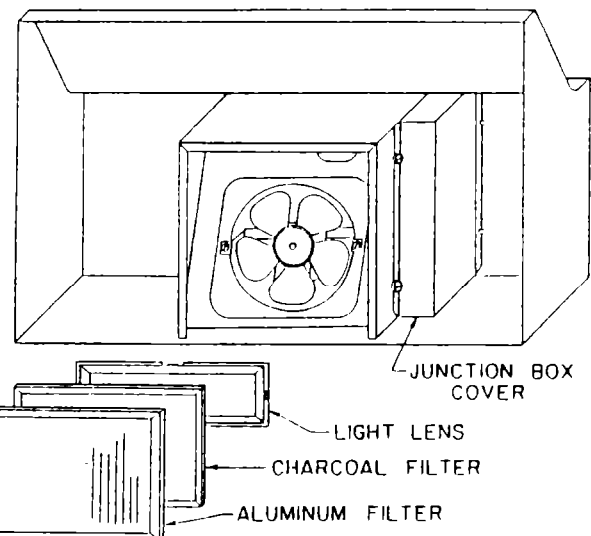

FIG. 2
4. Remove screws holding junction box cover. See Figure 2.